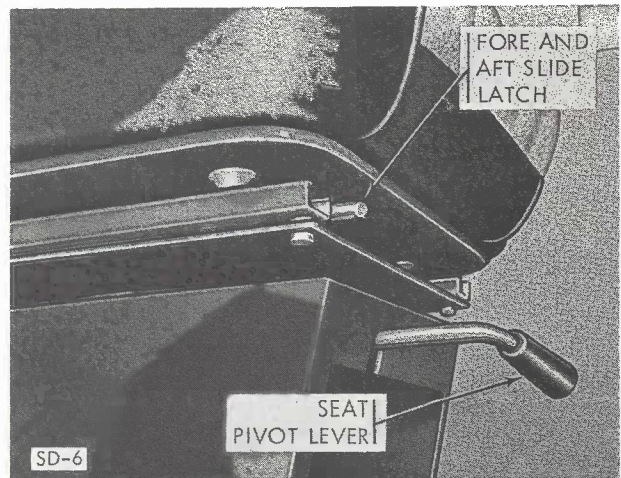

Figure 4-4. Driver's Seat-Adj
a. Driver's Seat (fig. 4-4). The driver's seat adjusts fore and aft through six positions for your leg and arm comfort. This seat also pivots to the right, which makes getting in or out of it very easy. Place yourself in the seat and adjust the forward position to your comfort by moving the fore and aft slide latch (under the seat) to the left. Move seat forward or backward until you feel comfortable with your right foot on the accelerator pedal. Release slide latch. Latch will "click" when seat is secure in track. Raise arm rests; adjust and fasten seat belt or shoulder belt. To swing out of the seat, simply lower arm rest, release seat or shoulder belt, and push down on seat pivot lever located beneath seat frame on driver's seat pedestal. If the seat is in the full rearward position, you will have to move it forward (about 2-1/2 inches) to allow space for the seatback to clear the galley partition.